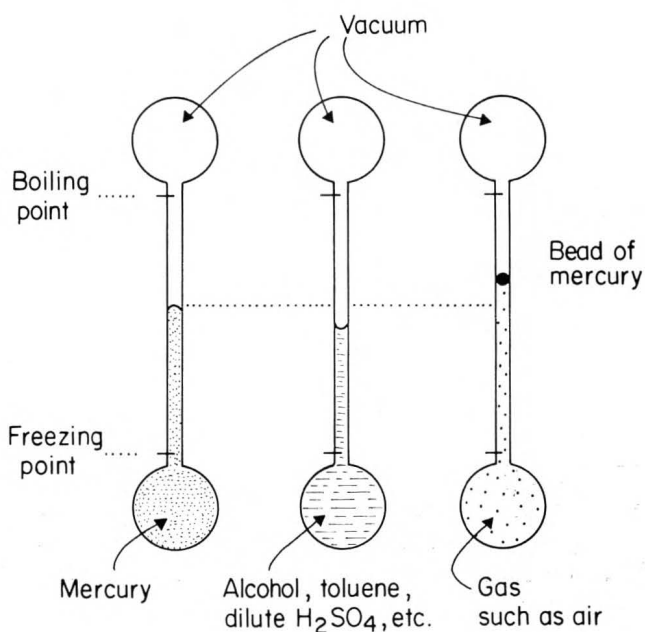

FIGURE 1.
**T**HERMOMETERS EVOLVED into three broad types, as shown in Fig. 1, and as users became fussier and demanded more precision all sorts of problems cropped up. For example, should melting ice or freezing water be one of the calibration points? In practice they differ! Should boiling water or condensing steam be the other? The zero point also slowly and continually changed with time. In mercury thermometers it crept upward, in alcohol thermometers it slid downward.
Probably the most serious problem was that when one type of thermometer read a temperature halfway between calibration points the others did not because of changing coefficients of expansion of fluids. This is illustrated in Figure 1. In this case which thermometer read the true midpoint temperature—which to trust? Was the selection of equal intervals of temperature an arbitrary matter, or was there a rational way for doing this? These difficulties kept scientists out of mischief for quite a while.